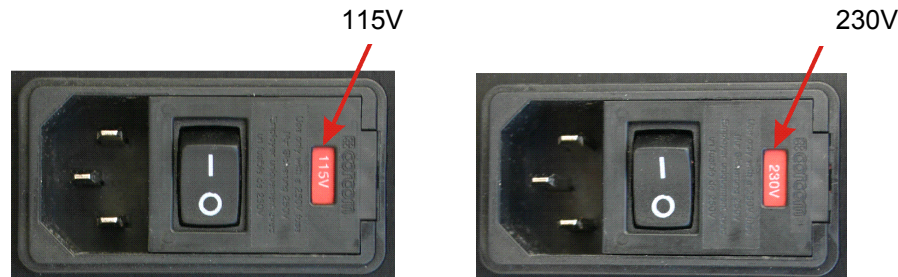

Figure 18. Power Entry Module – Voltage Input Settings
6. Replace the fuse block in the power entry module and verify that the correct voltage setting is shown (see Figure 18).